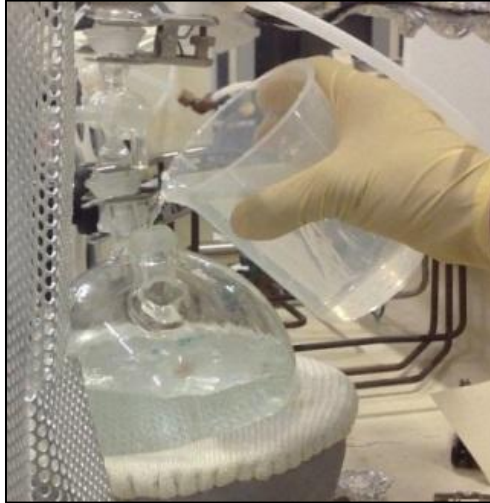

Figure 3 – Filling DI Water Bubbler for Wet Oxidation
3. Refer to **Figure 3**. Fill the bubbler with fresh DI water using a clean beaker, and if needed a clean funnel, from the lithography area inside the Class 100 cleanroom.